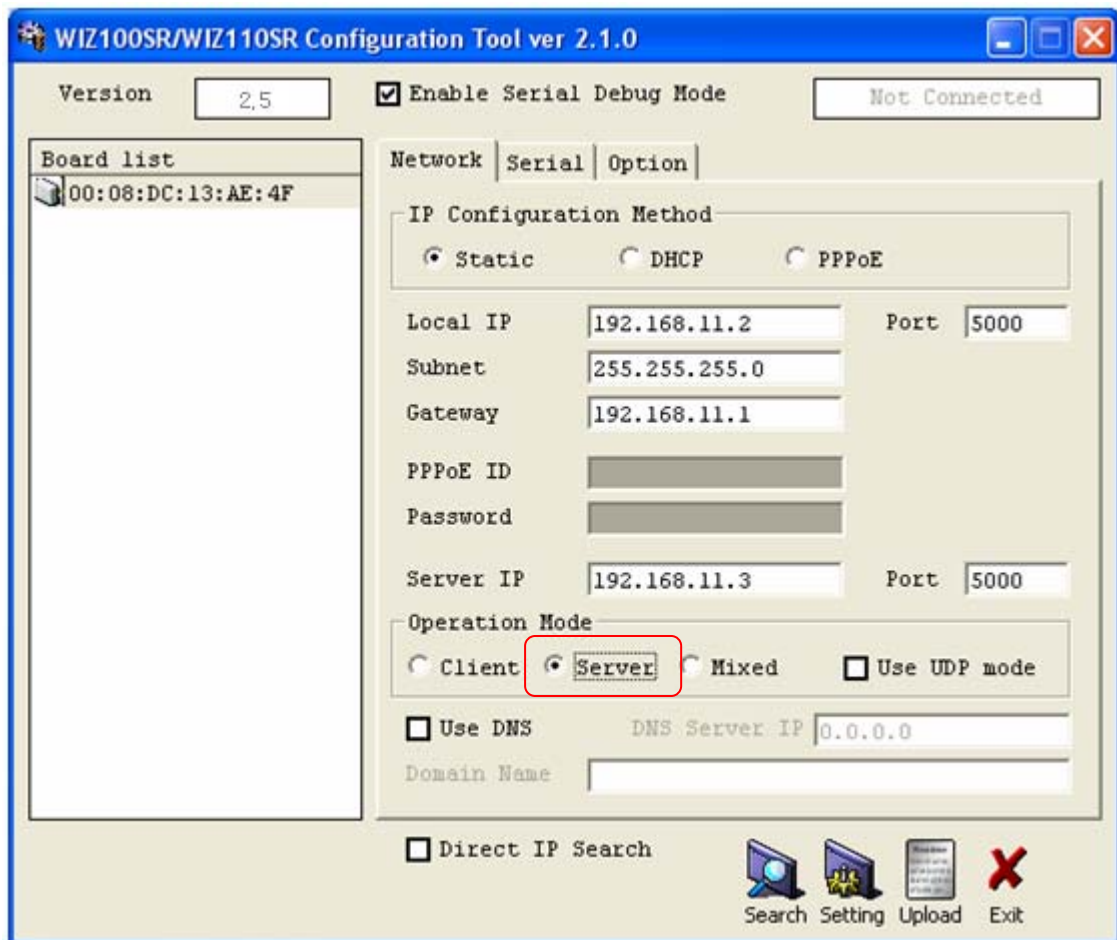

Figure 9. Select Operation mode for Password setting
3. As shown in Figure 9, select Option tab and check 'Enable' combo box of "Password" menu.
④ Serial Configuration: